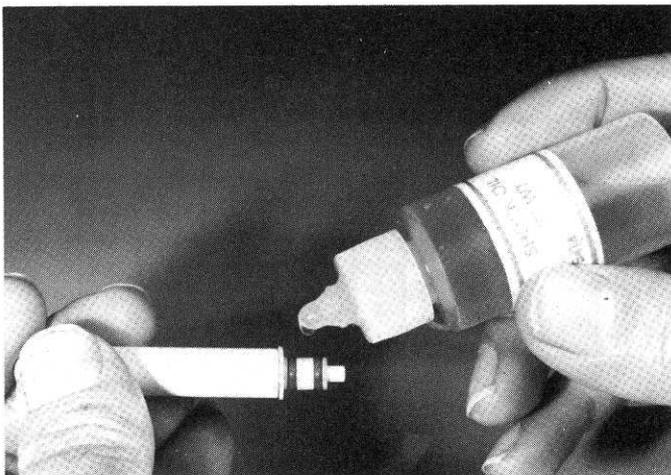

Fig. 94
□ **Fig. 94** Apply a liberal amount of oil to the parts on the installation tool.